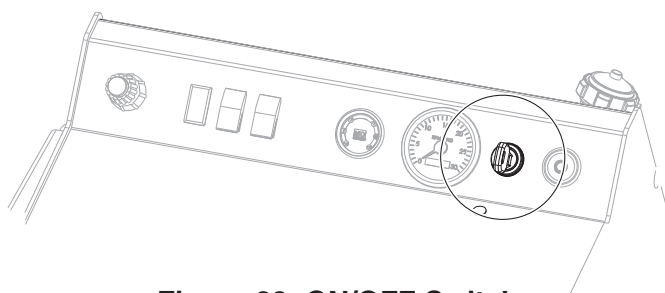

Figure 29. ON/OFF Switch
5. Turn the ignition switch to the ON position (Figure 29).